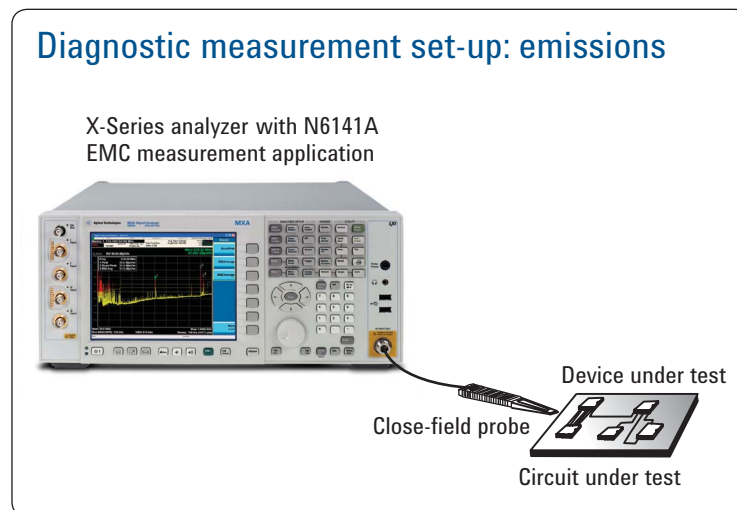

Figure 15. Diagnostics setup interconnection
1. Connect the diagnostics tools as shown in Figure 15.